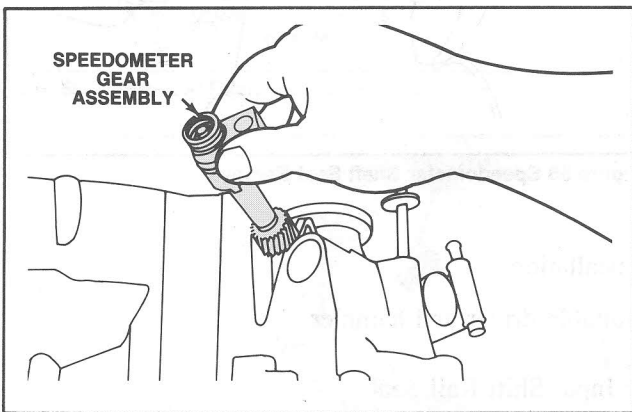

Figure 51 Speedometer Gear Removal
2. Remove the attaching bolt and the speedometer driven gear. (Figure 51).